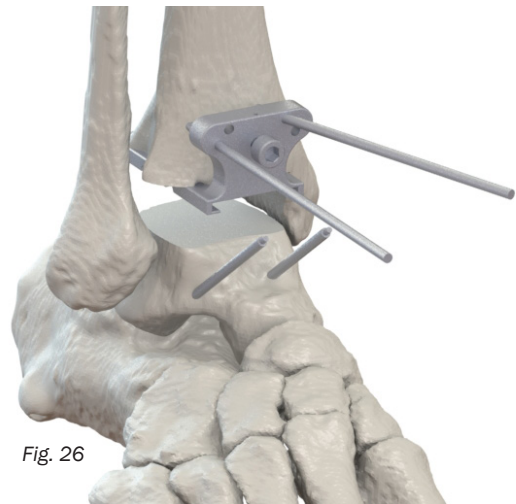

Fig. 26
2.9 Using a Wire Cutter, cut the break-off wires at the notch (Fig. 26).